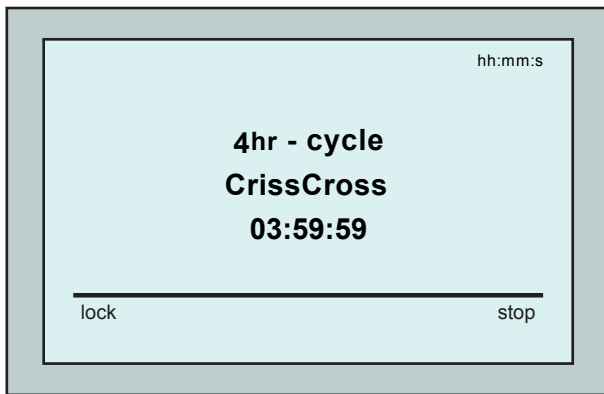

Figure 4: Countdown screen for 4 hour session
To avoid unauthorized changes to the MMI settings you can lock the MMI's keyboard: From the *Countdown* screen, press **Lock** (Figure 4). To unlock the keyboard, press **POOL** and then **HOME** in that order.
- From the *Countdown* screen (Figure 4), press **Stop**. The MMI screen displays the message: "Stopping robot – please wait". After 5 seconds the *Manual Stop* screen is displayed (Figure 5).